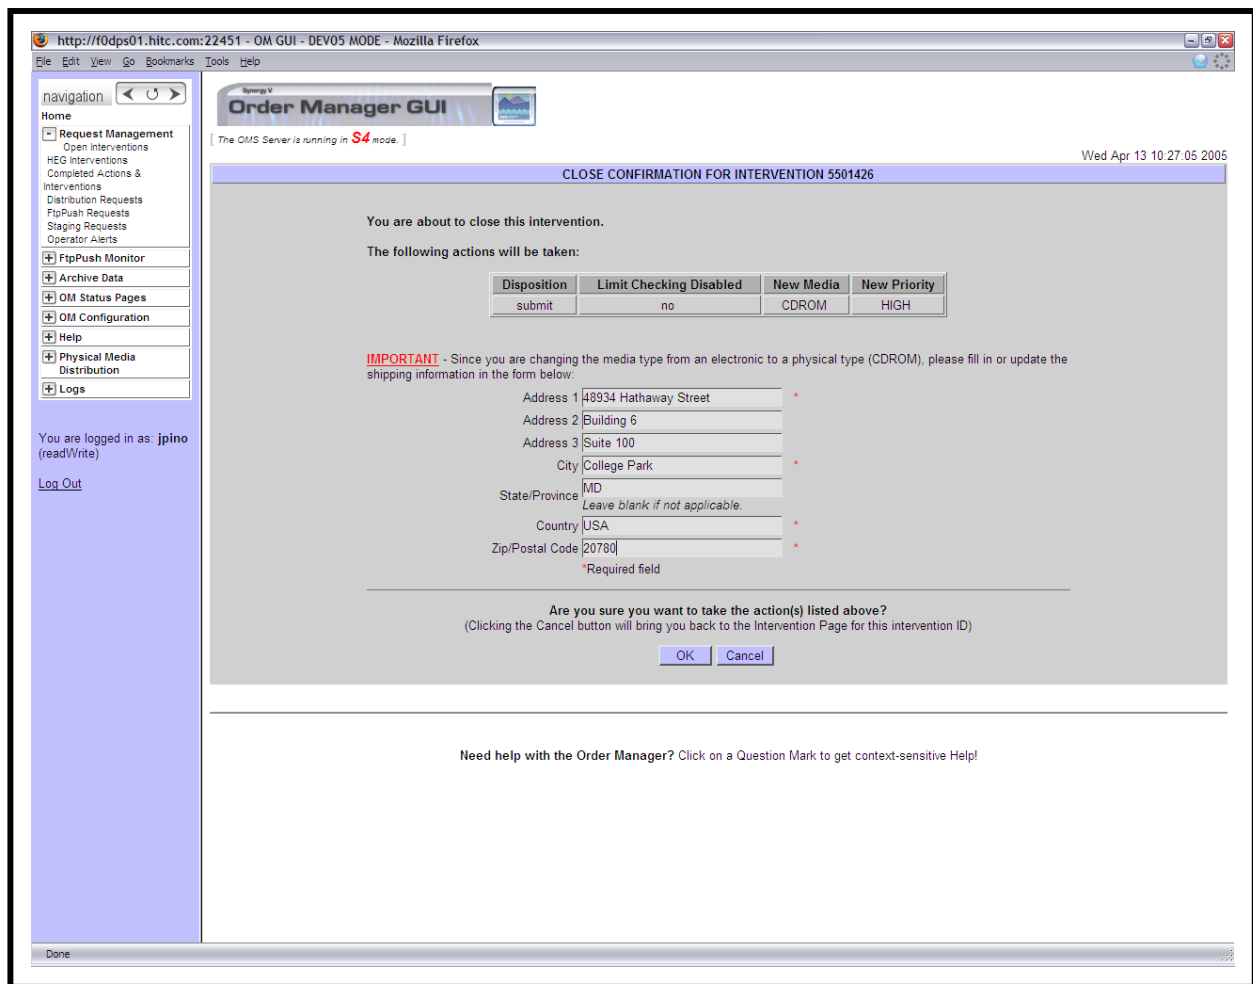

Figure 28. Close Confirmation (CLOSE CONFIRMATION FOR INTERVENTION X) Page (PMD)
- If the intervention involved changing the medium from an electronic medium to a physical medium, text boxes for entering the following types of shipping information are displayed on the **Close Confirmation** page (as shown in Figure 28):